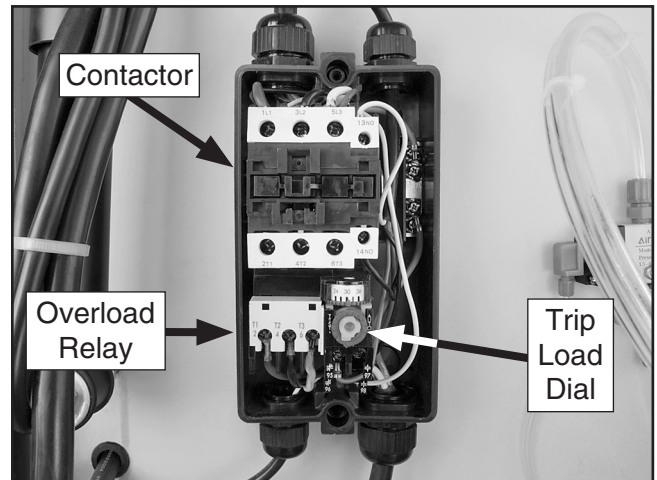

Figure 2. Model G0502 contactor and overload relay.
2. Open the electrical box, then replace the 220V contactor and overload relay with the ones in the conversion kit (see **Figure 2**).